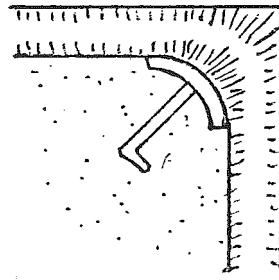

Fig. 2
- b. External chilling - can be accomplished by ramming metal or carbon pieces into areas of the mold, by using a sand with a chilling quality in these areas or nailing these areas after pattern removal, etc. See figures 2 & 3